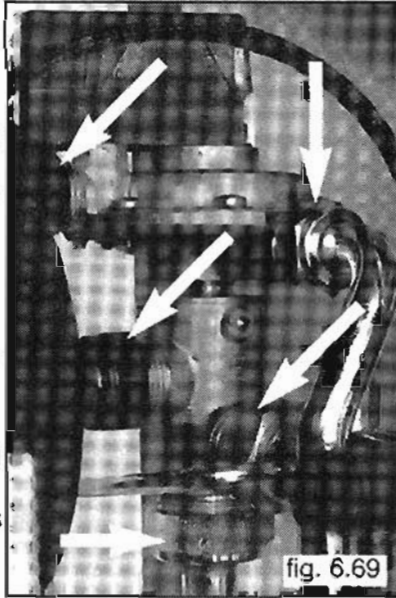

fig. 6.69
- 6 Release all the coupling nuts using No.20,30 and 36 Open ended spanners ( see fig.6.69 );